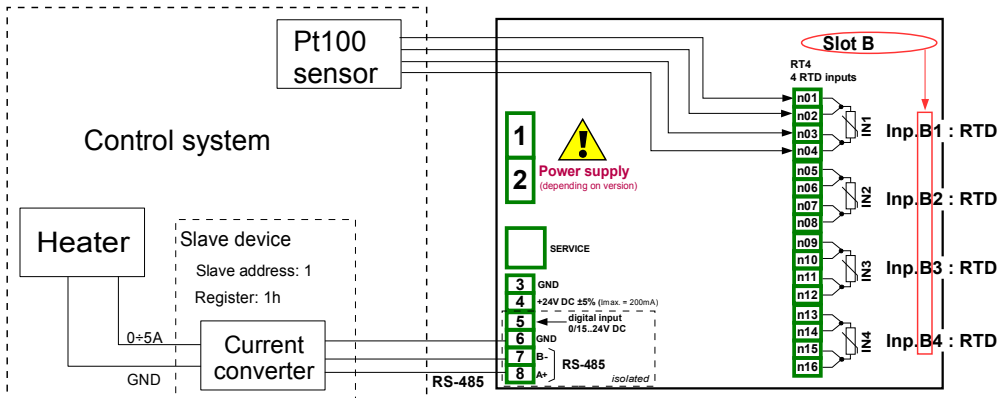

Fig. 7.76. Schematic diagram for the RT4 module and MB1 Modbus port
Before measuring and regulating the temperature, the user should configure the device as follows and then connect the RTD sensor and the Current converter to the device. An example of the connection is shown in **Fig. 7.76.**
- **Source** parameters set as **Inp.A1 : RTD** (see **Fig. 7.76**),
- **Precision** parameters set as **0.00** , because with this precision we can send a signal from the controller to the Current converter (see **Fig. 7.76**),